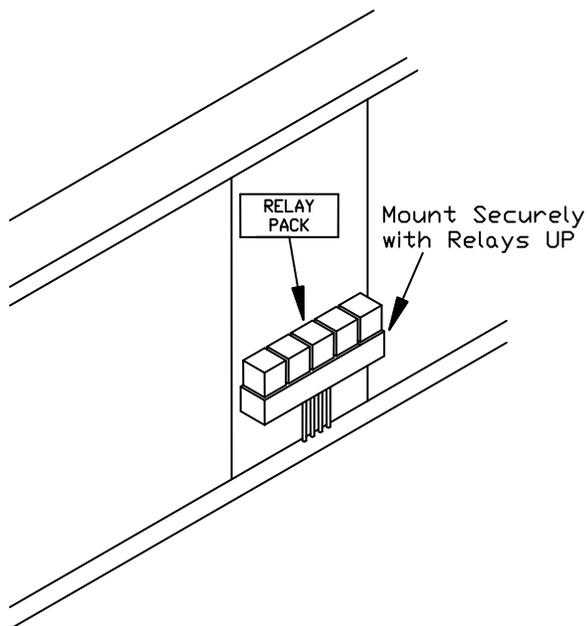

Figure 24. Relay Mounting. G10152
31. Locate vehicle option connector. Align the connector so that the arrow on the Vehicle Option Connector is positioned to match the vehicle it is installed on. This is illustrated in Figure 24.